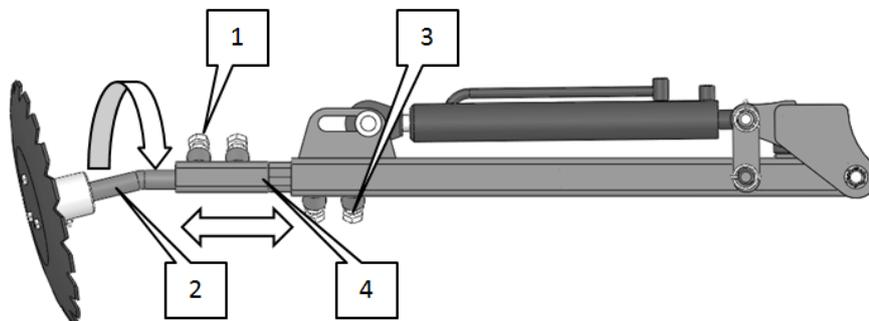

Fig. 17 Adjustment of the track marker
- The length of the marker is adjusted to avoid overlapping passes or leaving blank gaps between passes. In order to change the length of the track marker, loosen the screws [3] and [1] Fig. 17, slide in or out the movable elements [4] and [1], and then tighten the screws. The measured distance from the centre of the machine to the centre of the marked track should be equal to the working width of the machine. For example, for a 3m wide seed drill, the distance from the centre of the machine to the marked track should be 3m. During the first passes, check in the field that the passages are correctly marked.
- The rake angle of the marker disc. By changing the disc angle, we increase the clearance and reduce the width of the marked track. To adjust this feature, loosen the screws [1] Fig. 17, adjust the plate angle by turning the element [2], and then tighten the screws.